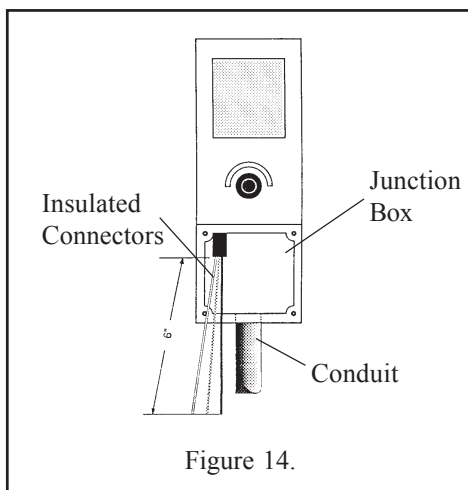

Figure 14.
13. Pull cord out of the junction box and strip a six (6) inch section of the outer insulation jacket from the cord, see Figure 14.